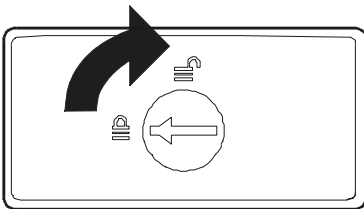

Figure 46 Door Lock
2. Use a flat-blade screwdriver to unlock and open the disk system door (see Figure 46).